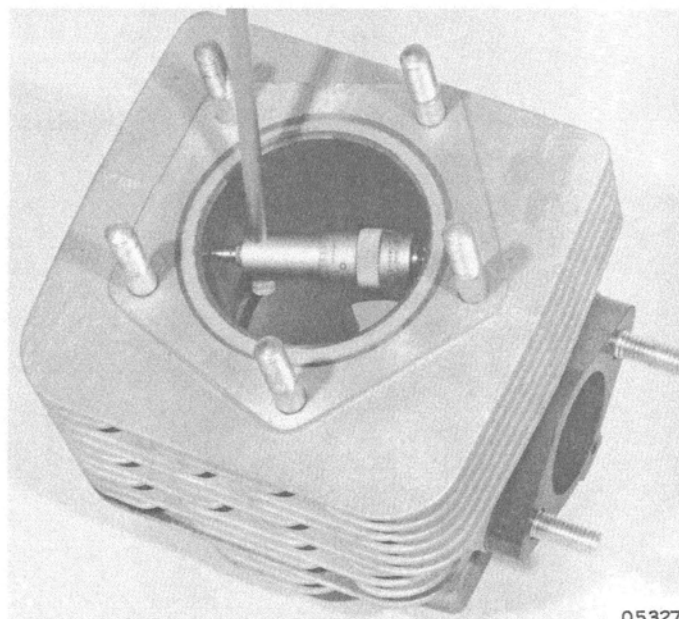

Figure 4. Measuring Cylinder
3. Measure cylinder sleeve diameter with any inside micrometer at approximate center of sleeve. (Figure 4)